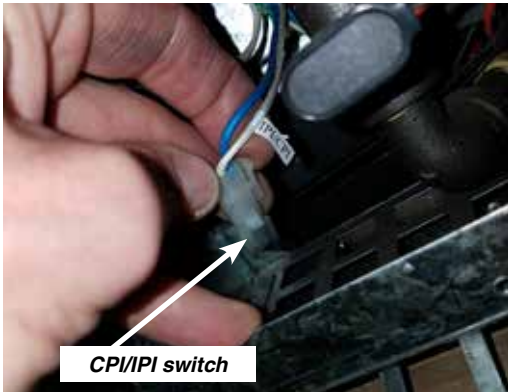

Figure 16a
19. When using the Power Vent Kit (PVK), there is no need to have the unit set to continuous pilot so locate the CPI/IPI connectors (Blue and White wires) and disconnect them as shown in Figure 16a & 16b.